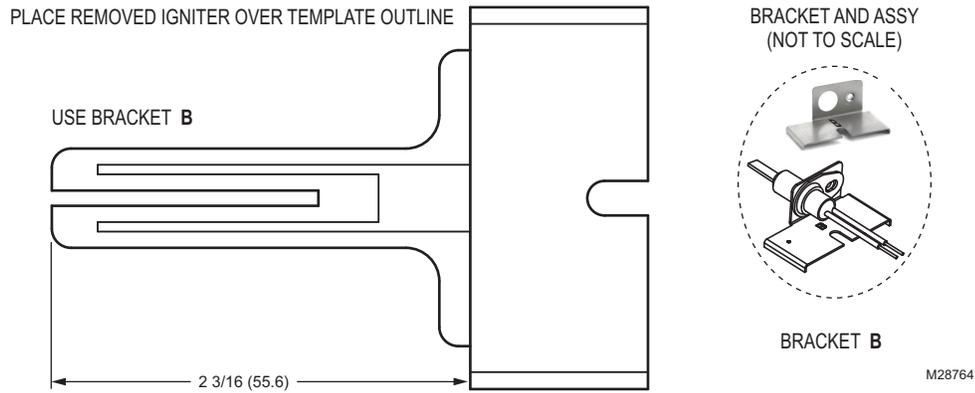

Fig. 2. Igniter bracket B template; dimensions in in. (mm).
2. Check the cross reference table on page 5 and the templates (Fig. 2 on page 3 and Fig. 3 on page 4) to make sure the proper igniter bracket is used for your application.
2. Using the bracket selection templates (Fig. 2 and Fig. 3), the cross reference (Table 1), and the original igniter assembly, place the igniter on the templates to confirm which bracket to use for this installation.